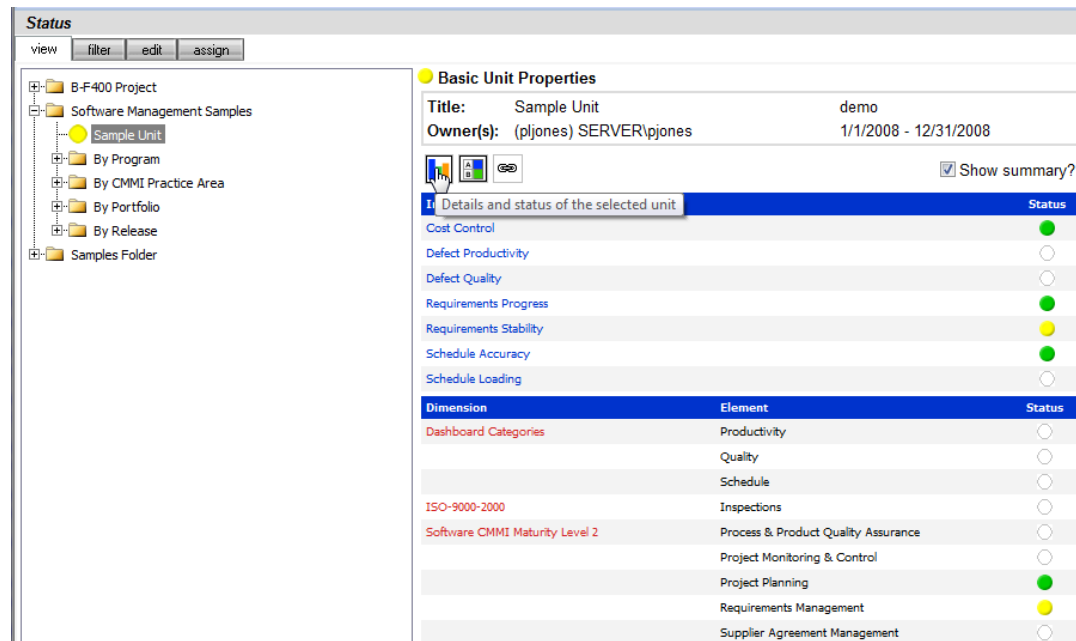

Figure 33
2. Ensure the desired Unit is selected (Figure 33)